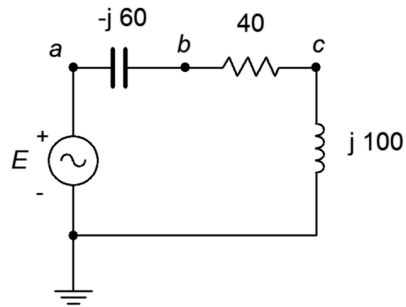

Figure 7.4
4. For the circuit shown in Figure 7.4, determine apparent power S , real power P , reactive power Q and power factor PF . Also, draw the power triangle. The source is 120 volts.